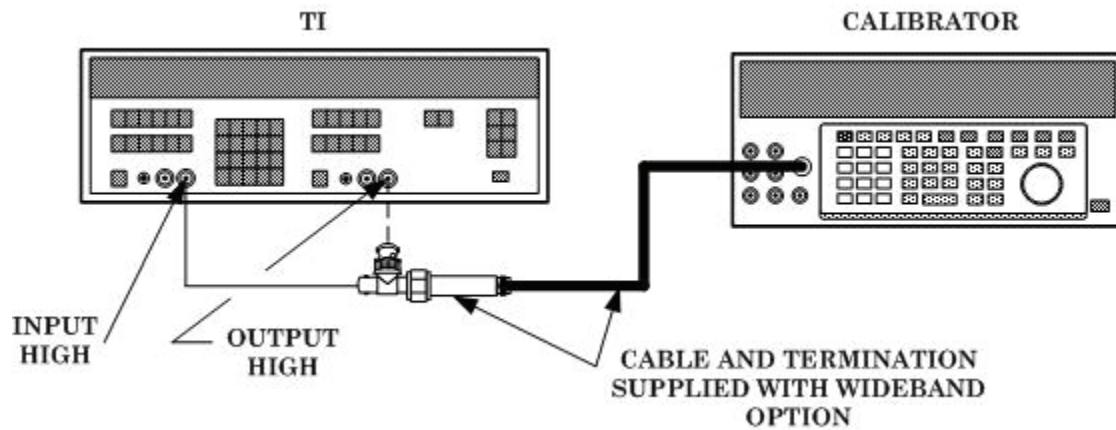

Figure 7. SINAD measurement.
(1) Connect equipment as shown in figure 7 below.
(2) Press keys and enter values using **DATA ENTRY** keys as listed in (a) through (j) below: